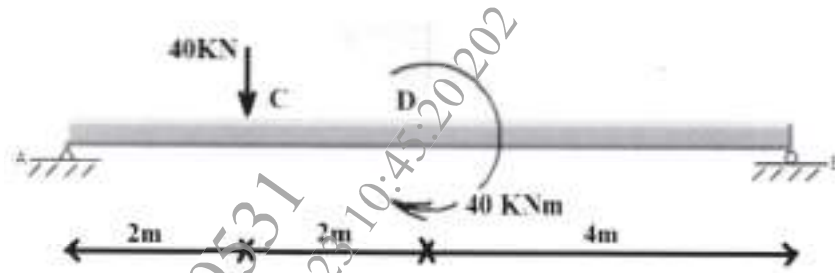

Fig 4.1
**Q4) a)** Draw SFD & BMD of the beam shown in figure 4.1.